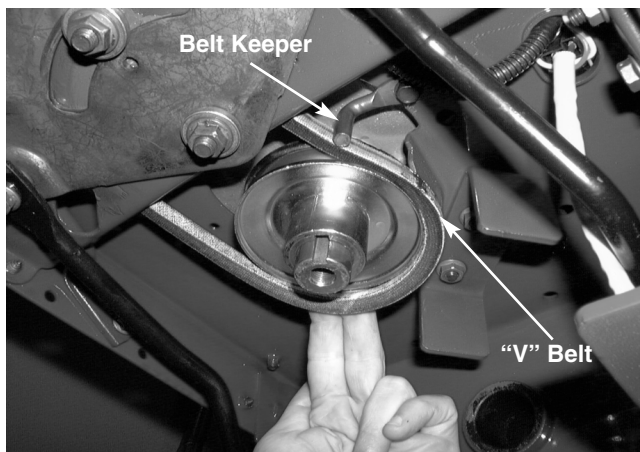

FIGURE 6.
11. Grasp the drive pulley and pull downward until the "V" belt is clear of the belt keepers at the engine. See figure 6.